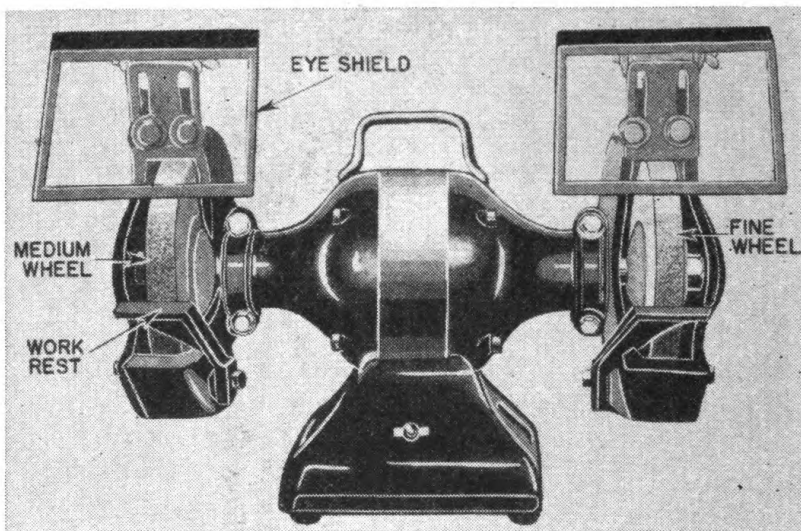

FIGURE 112.—Bench grinder.
36. Bench grinder.—*a. General.*—Figure 112 shows a common type of bench grinder frequently used in automotive shops for hand grinding operations, such as sharpening chisels or screw drivers,